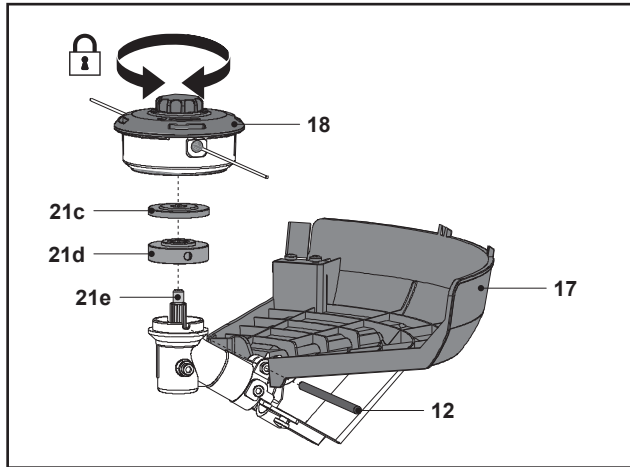

Fig. 5
1. Make sure the guard (17) has been attached properly.
3. Insert the spindle lock rod (12) into the hole to lock the spindle (21e).
5. Screw the trimmer head (18) onto the spindle (21e) and tighten it counterclockwise by hand.
6. Remove the spindle lock rod (12) (Fig. 5).